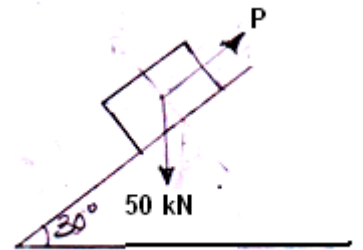

Fig..15
Q.18	(a) Define: Angle of Friction and Cone of Friction (b) State the Laws of Friction (c) A block weighing 50KN is placed on a rough plane inclined at 30° to horizontal. If coefficient of friction is 0.25. Find out the force applied on the block as shown in fig. 15 parallel to the plane. So that the block is just on the point of moving up the plane. Also find angle of friction.